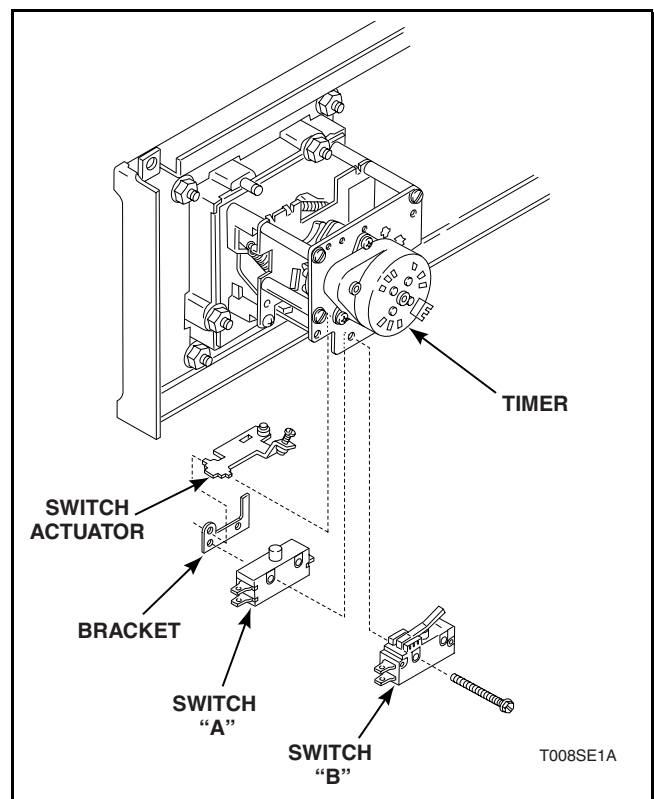

Figure 9
- Disconnect wires from switches on timer. Refer to *Figure 9*.
- Hold switches and actuating bracket under switches tightly together with one hand while removing two screws holding switches to timing motor mounting bracket. Carefully remove the switches and actuating bracket parts. Refer to *Figure 9*.
- Assemble the two switches and the two parts making up the switch actuating bracket. Refer to *Figure 9*.